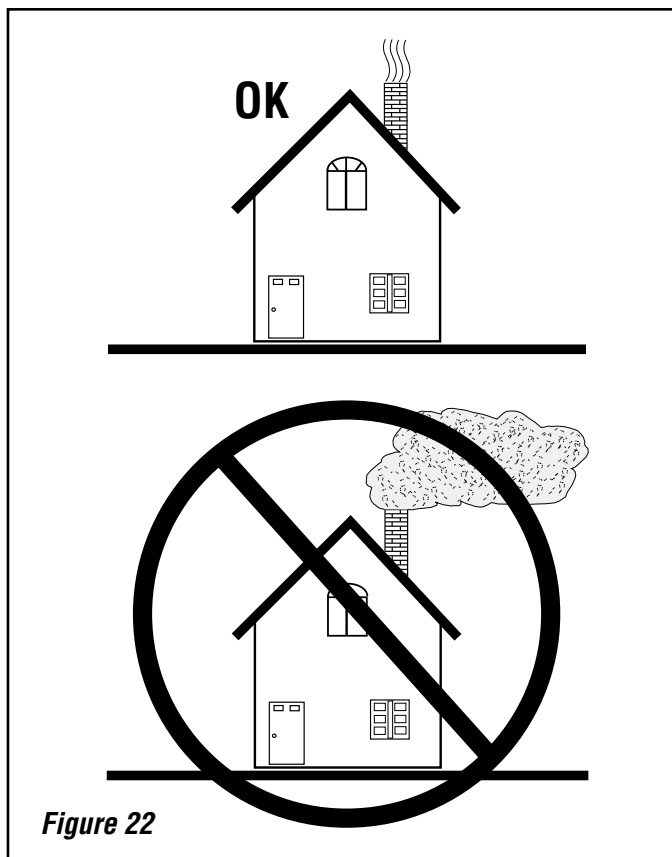

Figure 22
7. For best results, use smaller pieces of wood and light the fire from the top of the kindling pile to get the appliance temperature very high before loading larger wood for sustained burns. If necessary, crack the door to allow ignition of the fuel charge. Now you can add larger pieces of wood and after several minutes of high burn, set the left control for the desired heat output. Check the exhaust in about 15 to 20 minutes (see *Figure 22*). Large amounts of smoke indicate an improper burn setting (either too high or too low). Adjust and recheck in 5 to 10 minutes.
6. Go outside and check your chimney. More than a very small amount of smoke indicates wasted heat, creosote build up and pollution (*see Figure 22*).